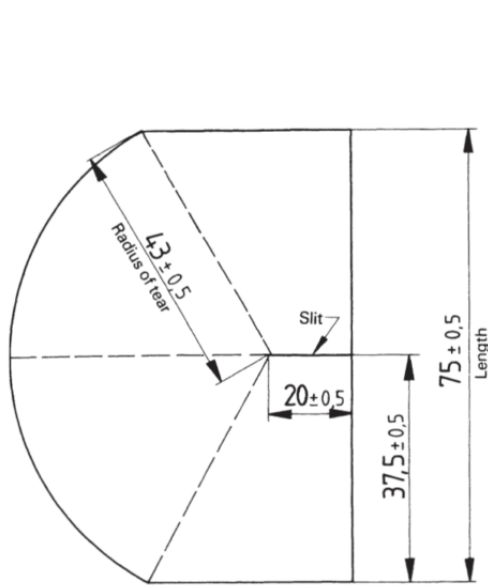

Figure 2 – Constant-radius test specimen
6.1 The test specimen shall have the shape and dimensions shown in figures 2 or 3. The preferred or
referee specimen shall be the constant-radius specimen (figure 2) because of better reproducibility (see 8.5).
8.5 When constant-radius test specimens (see figure 2) are used, reject any tests in which the line or tear deviates outside the constant radius section and test additional specimens to replace those rejected.